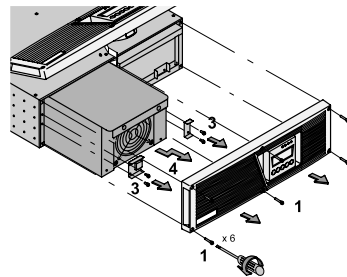

Figure 39. Removing the Power Module
1. Remove the UPS front cover (six screws). See Figure 39.